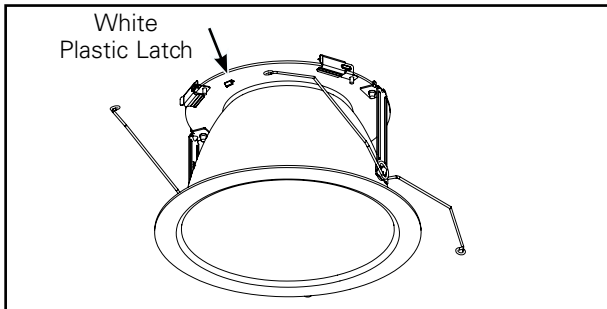
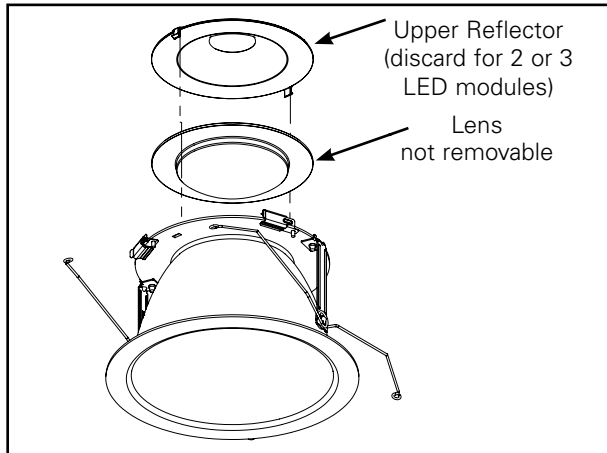

Figure 12
Figure 13
4. If the LED modules has 2 or 3 LEDs, gently remove the upper reflector by disengaging the white plastic latches (Figure 12. & Figure 13.) and discard it. Retain the upper reflector on the trim for 1LED modules.
1. Press in on white plastic latch to remove upper reflector and clean lens. (Figure 12 & 13.). Lens is not removable.